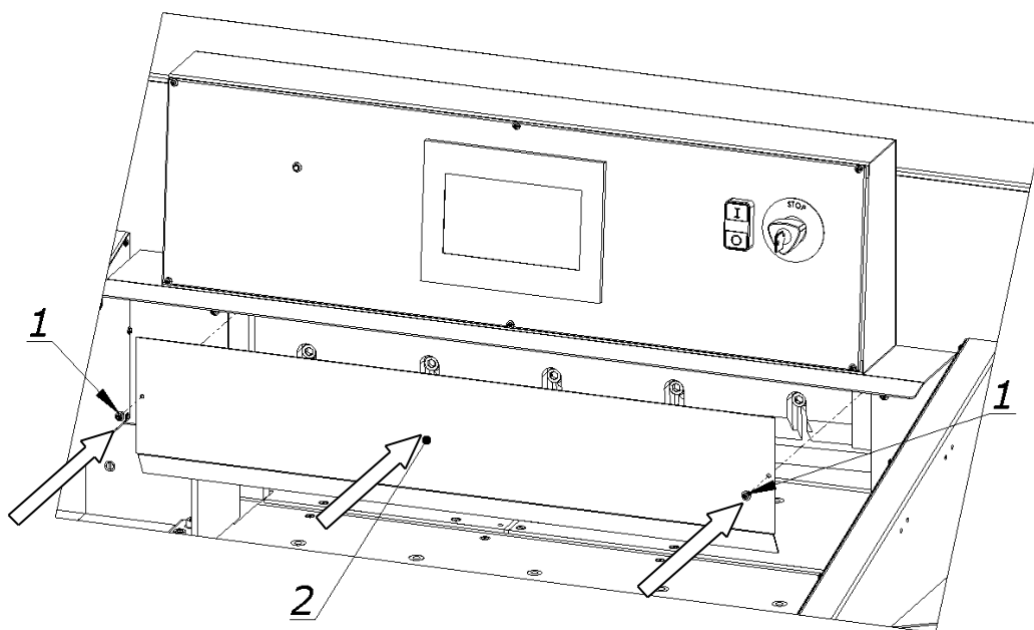

Figure 36
8.1.2.23 Attach cover 2 with the screws 1 (fig.36)